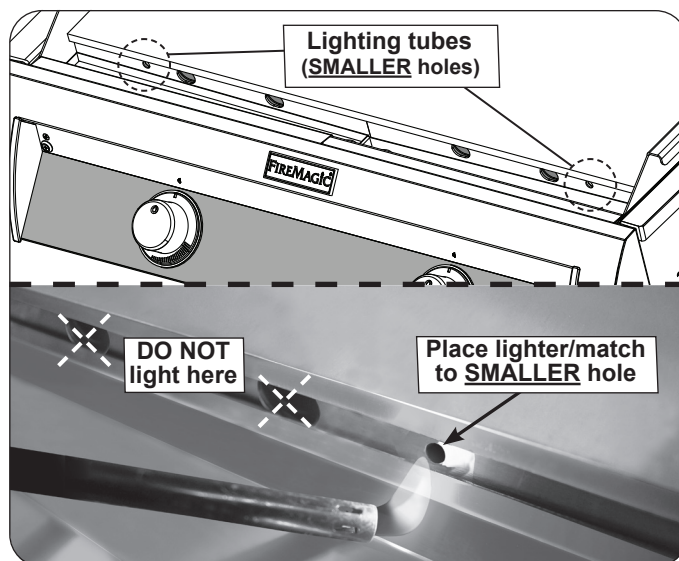

Fig. 37-3 Manual lighting
**CAUTION:** Always wait five (5) minutes for gas to clear after any unsuccessful lighting attempt.
2. Hold a burning long-barrel butane lighter or burning long-stem match up to the opening of the lighting tube (**SMALLER** hole) **for 5 seconds**. Then depress the appropriate control knob and while pressing turn it counterclockwise to the **HI LIGHT** position. Remove the lighter or match when the burner lights, and release the control knob. See Fig. 37-3.
**CAUTION:** If the burner does not light within five (5) seconds of turning the control knob, **immediately depress the knob and turn the valve to OFF**. WAIT FIVE (5) MINUTES before repeating step 2 MANUAL LIGHTING instructions.